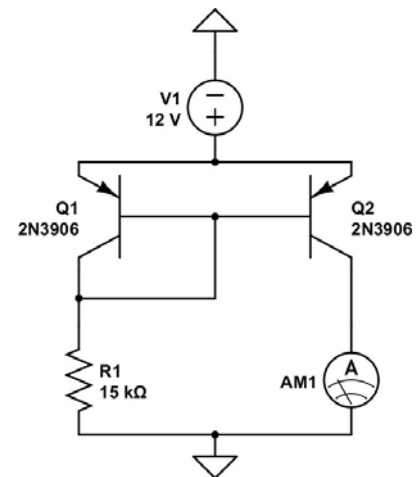

Figure 29: Current mirror I
- The circuit in Figure 29 uses two pnp transistors (the circuit would also work with npn transistors) to build a current mirror. The assumption is that in the linear regime the collector current is controlled by the base current which in turn is controlled by the base emitter voltage. This assumes that the I-V curve is flat in the linear regime.